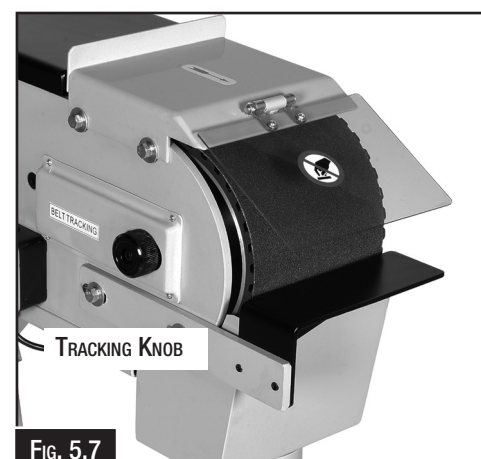

FIG. 5.7
2. Making small adjustments, turn the belt tracking adjustment knob clockwise to move the belt to the left, or turn the knob counterclockwise to move the belt to the right (Fig. 5.7)